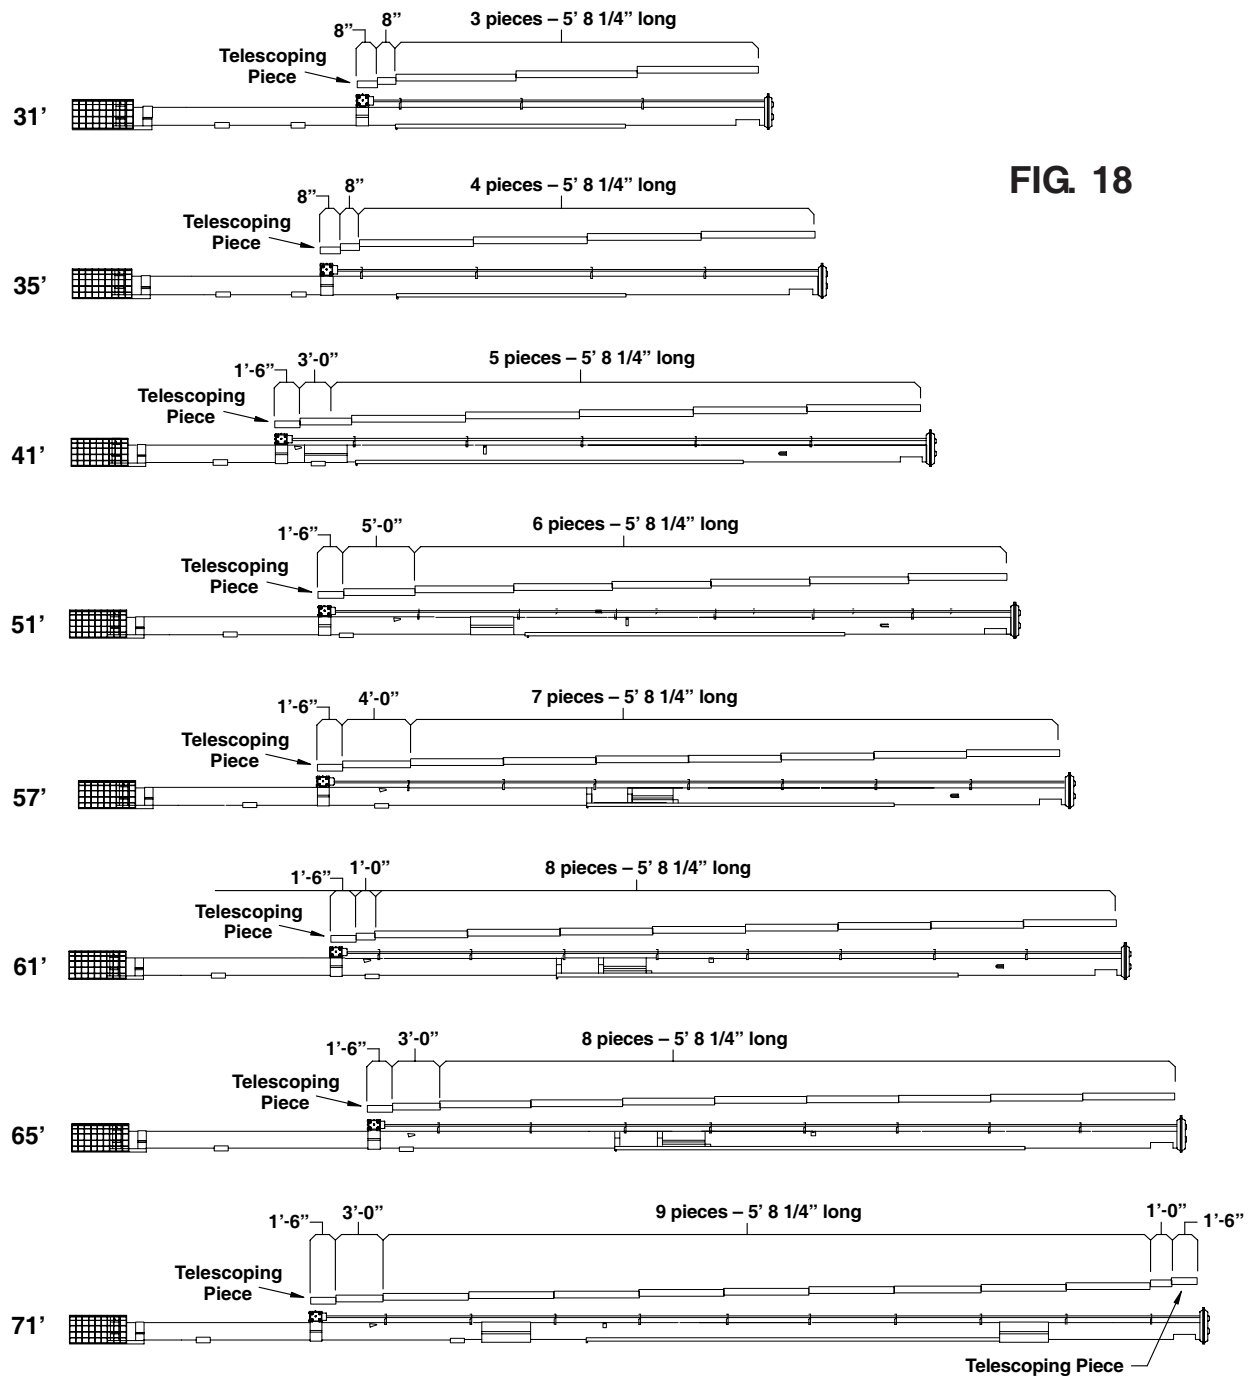

FIG. 18
Step 1. Bolt bearings to weld-on bearing stand at the upper end of the lower auger section. (See Fig. 18 on page 25 for location.) Attach the bearing using two retainers and one drive shaft cover mounting bracket. (See Fig. 15.)
Determine the location of the various lengths of drive shaft covers by placing them alongside the tube assembly in the order shown in Fig. 18 on page 25. Begin at the intake end of the unit. Work up the unit, overlapping covers at each bearing stand. See page 23 for proper assembly of the drive shaft covers.